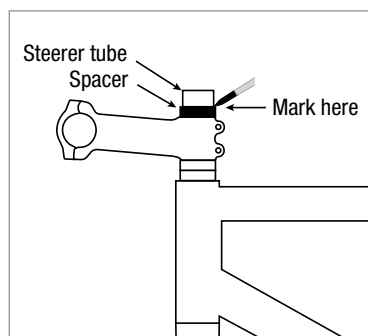

Figure 6
8. Add a 10 mm spacer above the stem clamp and use a fine-tip felt marker to mark the steerer tube along the top edge of the spacer if there is extra steerer tube (Fig. 6).